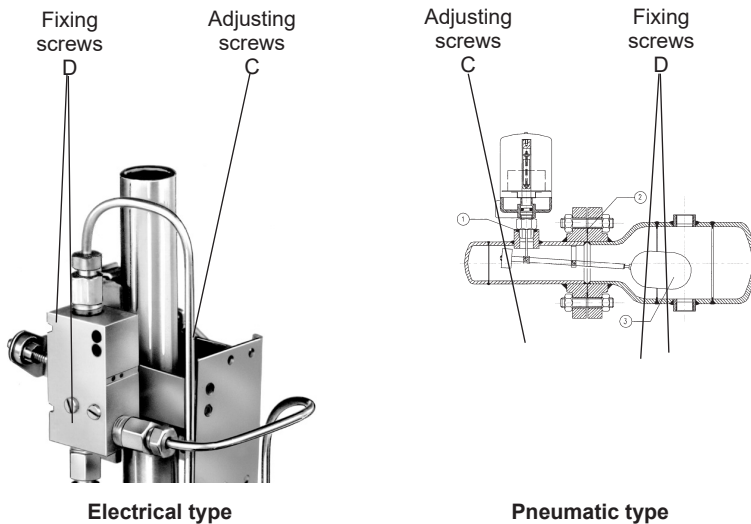

Fig. 7 - Electrical and pneumatic switches
- 2 - Remove the 2 fixing screws "D" (See fig. 7 - Electrical type) and then the switch.
- 4 - Manually check the lever of the magnet holder ensuring that the switch opens and closes correctly. If necessary make adjustments with screw "C" (see fig. 7 - Electrical type).
- 2 - Remove the 2 fixing screws "D" (fig.7 - Pneumatic type) and then the valve.
- 4 - Manually check the lever of the magnet holder ensuring that the switch opens and closes correctly. If necessary make adjustments with screw "C" (see fig. 7 - Pneumatic type).
Verify alignment between the adjusting screw "C" and the lever operating the microswitch (Fig. 7 - Electrical type). Check correct switching of the microswitch by manually operating the lever of the magnet holder.
Verify alignment between the adjusting screw "C" and the pushbutton controlling the valve (Fig. 7 - Pneumatic type). Check correct switching of the valve by manually operating the lever of the magnet holder.